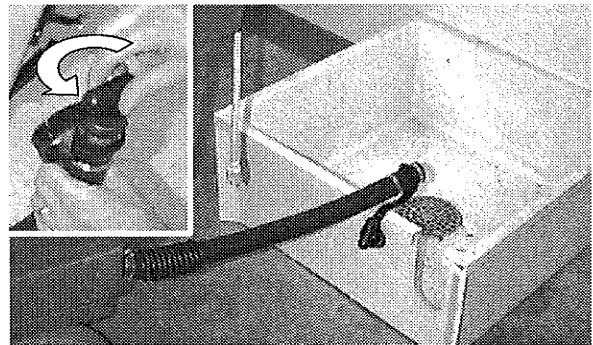

FIG. 8
2. Turn drain hose knob counterclockwise and pull plug out to drain (Figure 8).